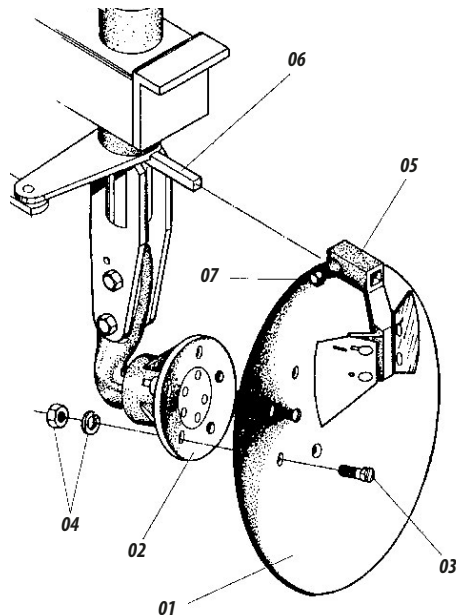

Figure 3
- 02 - Place discs, Item 1 Figure 3, in the hubs, item 2 through screws, item 3, nut and washer, Item 4.
- 03 - Place the wipers, item 5 in support, item 6, fixing them through the screws, nuts and pins.